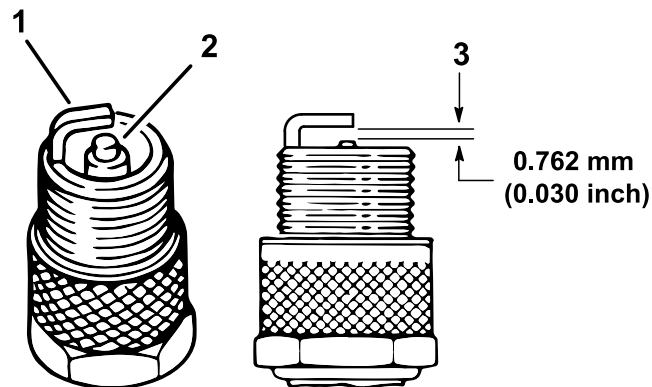

Figure 35
4. Check the condition of the side electrode, center electrode, and center electrode insulator to ensure that there is no damage (Figure 35).
5. Set the air gap between the center and side of the electrodes at 0.762 mm (0.030 inch) as shown in Figure 35.